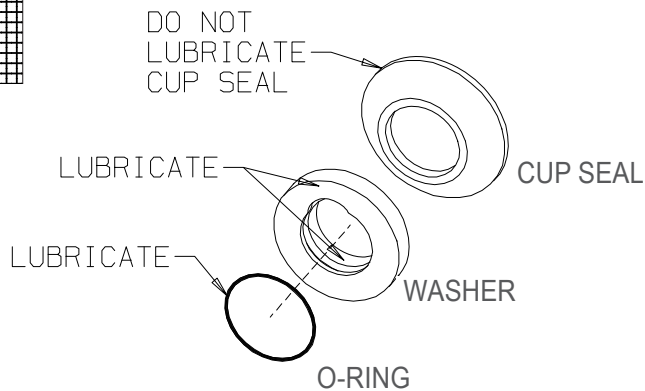

Figure 7-1 Shaft Seal Assembly
2. To assemble the shaft seal, install the cup seal and O-ring on the bushing (see figure 7-1). Apply a light amount of approved sanitary lubricant (such as Petrol-Gel) to the O-ring and the face of the plastic washer opposite the bell portion of the seal. Do not allow any lubricant to come into contact with the bell-shaped rubber portion of the seals.